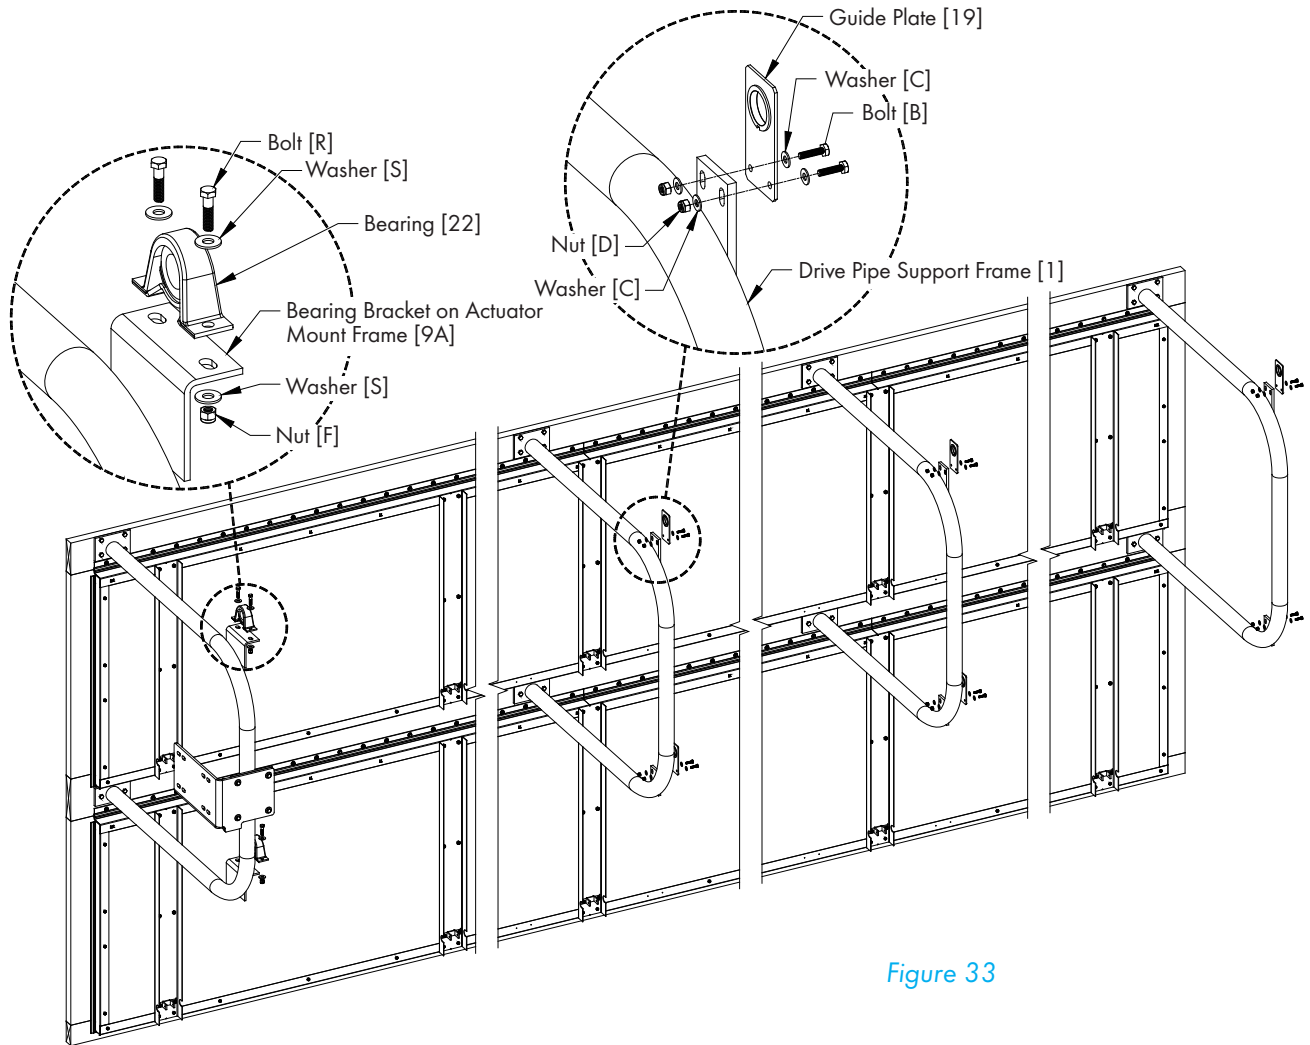
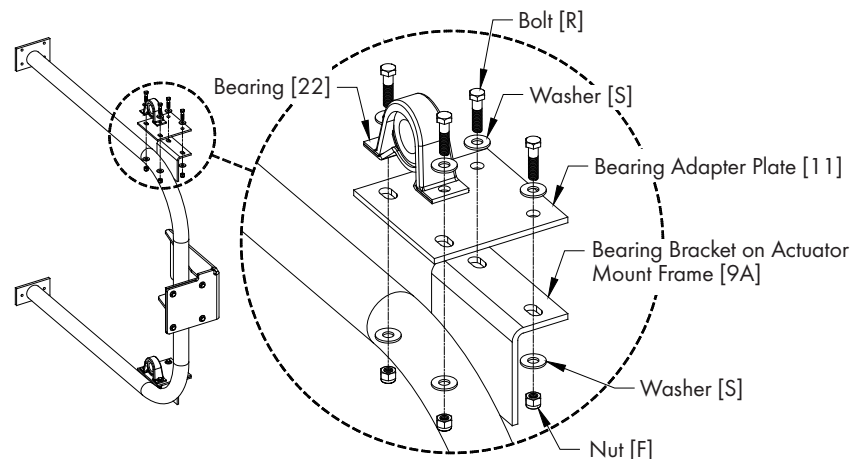

Figure 33
Figure 34
For each of the Actuator Mount Frames [9A], install a Bearing [22] on the Bearing Bracket using (2) Bolts [R], (4) Washers [S] and (2) Nuts [F]. See Figure 33. On each of the Drive Frames [1], install a Guide Plate [19] using (2) Bolts [B], (4) Washers [C] and (2) Nuts [D]. See Figure 33. Install bolts snug, but not tight. Align hole in Bearing with hole in Guide Plates. If the Actuator Mount Frame [9A] is mounted on the right end of the system, then install the Bearing [22] to the Bearing Adapter Plate [11]. See Figure 34.